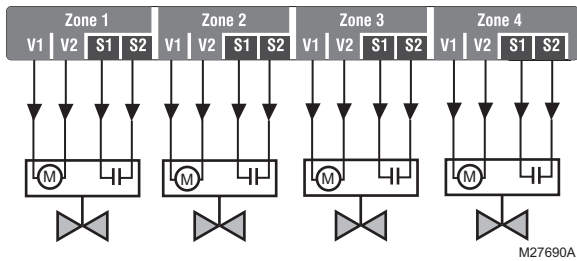

Fig. 13. Wiring an AQ15740B Zoning Module for use with low voltage zone valves with end switches.
2. Low voltage zone valves with end switches: See Fig. 13. 24 Vac power is pre-wired between the transformer secondary at the top left of the AQ251's transformer and the AQ15740B Zoning Module. No field wiring is required.